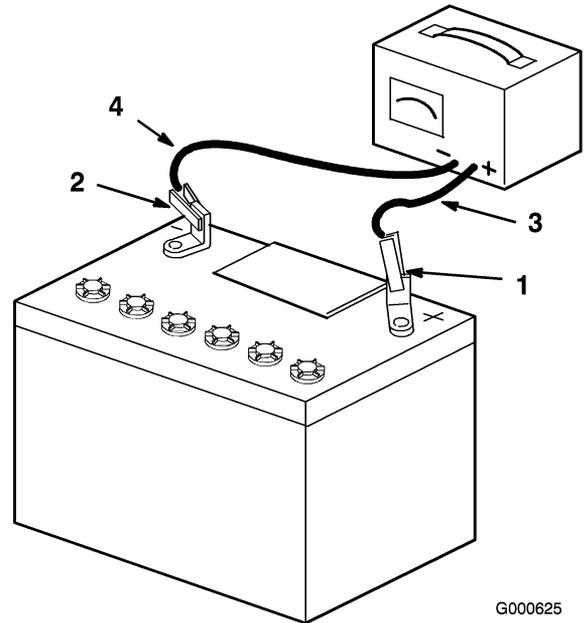

Figure 47
4. When the battery is fully charged, unplug the charger from the electrical outlet, then disconnect the charger leads from the battery posts (Figure 47).